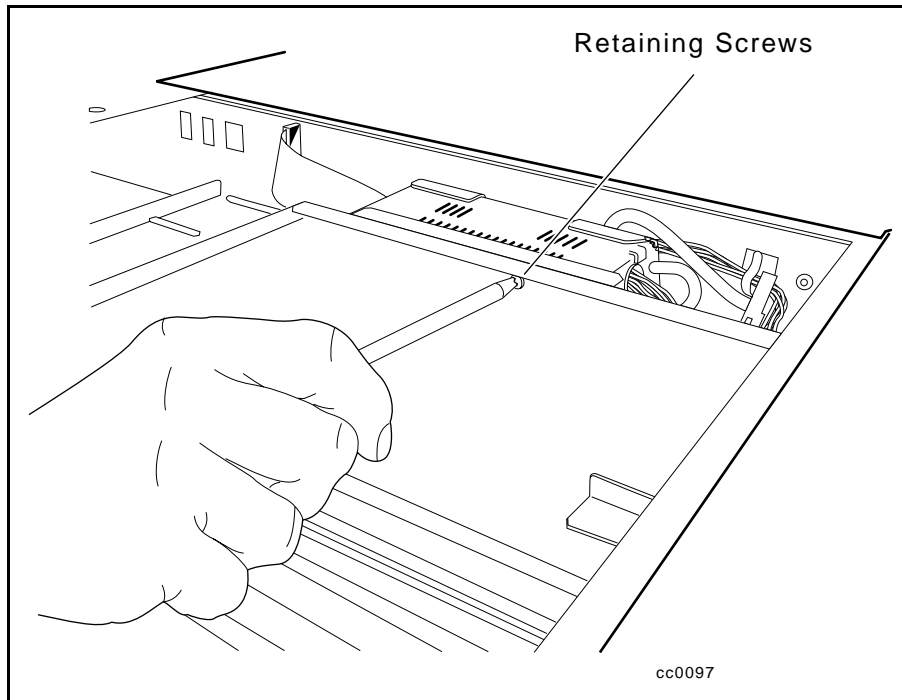

Figure 5-27. Power supply retaining screws
9. On the magazine side, remove the two screws that secure the power supply to the Library chassis (see Figure 5-27).
4. Using two screws, secure the power supply to the Library chassis (see Figure 5-27).